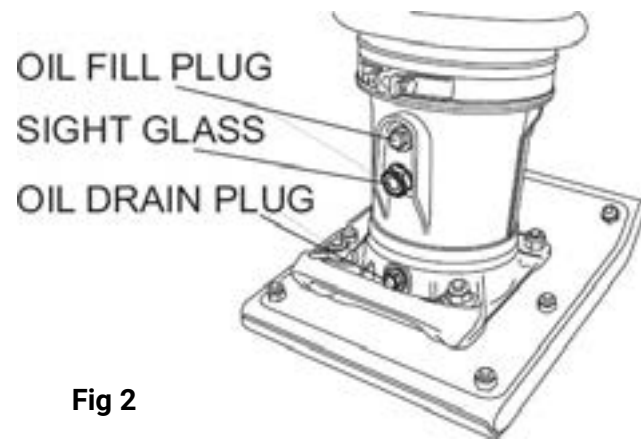

Fig 2
1. Check the oil level through the oil level sight glass (Fig 2) located at the rear of the tamper foot.
2. If the oil is not visible, add Mobil ISO VG46 or another oil with the same standard into the oil fill plug opening (Fig 2). The bath contains approximately 1000 cc.